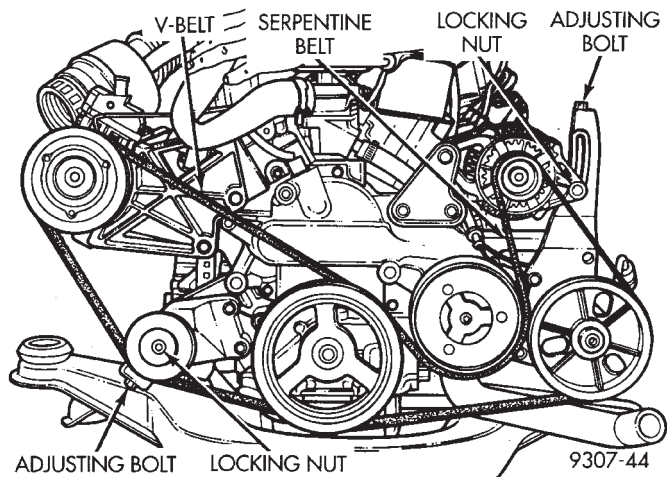
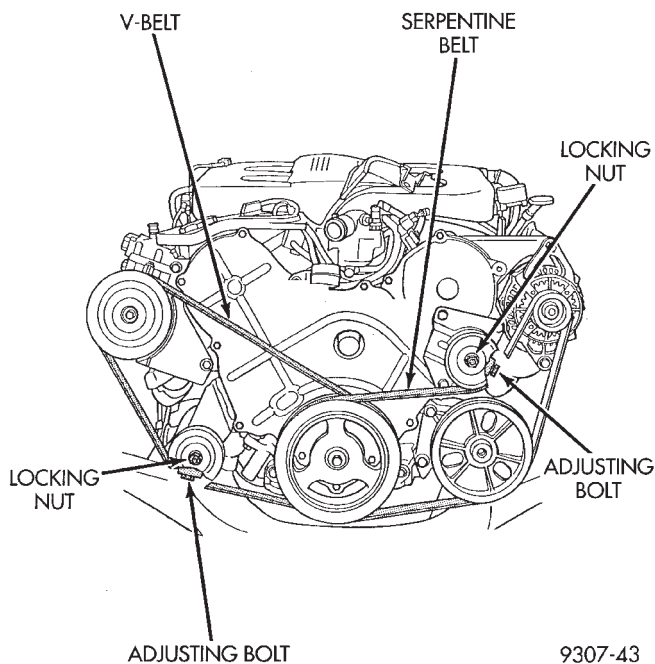

Fig. 2 Accessory Drive— 3.3L Engine
Fig. 4 Accessory Drive—3.5L Engine
The Poly-V generator/power steering belt is provided by adjustable tensioner pulley located on the timing belt cover (Fig. 4) to maintain proper belt tension. To remove or install this belt, Release tension
by loosening the tensioner pulley nut and adjustment bolt (Fig. 4). Reverse procedure to install and tighten belt to specified tension.
(1) Remove the generator/power steering pump and water pump drive belt to gain access to the air conditioning drive belt.
(2) To remove and install the air conditioning compressor drive belt, first loosen the tensioner pulley lock nut, then turn the adjusting screw to raise or lower the tensioner pulley assembly (Fig. 2 and 4).
To adjust the air conditioning drive belt, loosen the tensioner pulley nut (Fig. 4) and adjust belt tension by tightening adjusting screw (Figs. 2 and 4). Torque pulley nut to 54 N•m (40 ft. lbs.) after adjustment.